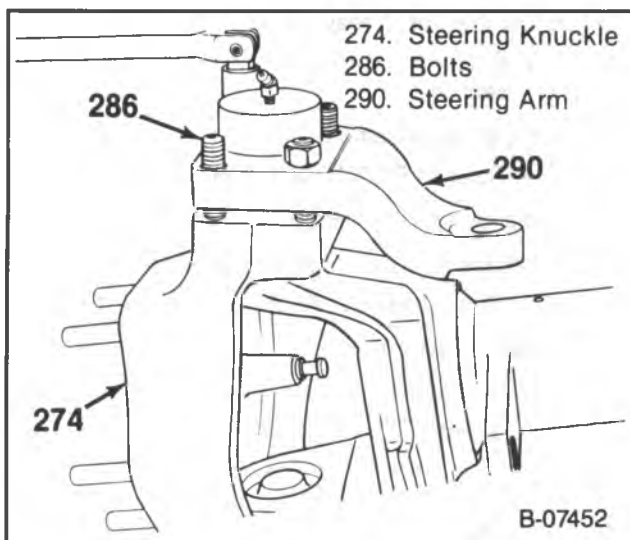
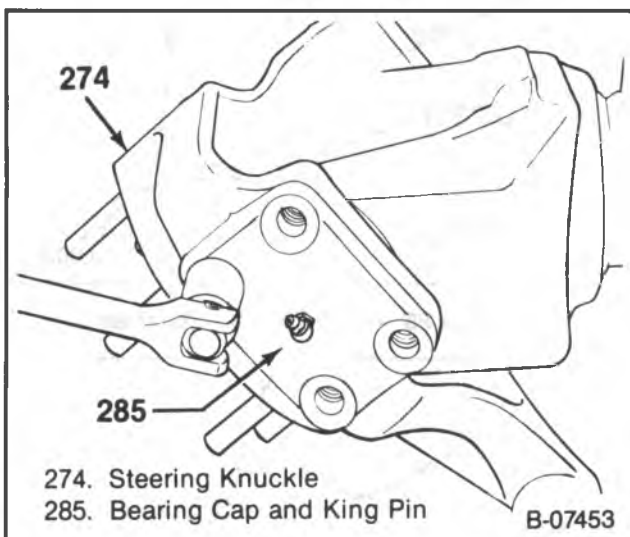

Figure 61 — Removing the Cap and Steering Arm Fasteners
Figure 62 — Removing the Lower Bearing Cap and King Pin
- Locking hub assembly (249).
- Spindle (265).
- Upper cap (273) and/or steering arm (290).
- For the cap, remove the bolts (271) and washers (272) alternately as the compression spring will force the cap up.
- For the steering arm, remove the nuts (291) alternately as the compression spring will force the steering arm up (figure 61).
- Gasket (289) and compression spring (288).
- Bolts (271) and washers (272) (figure 62).
- Lower bearing cap and king pin (285).